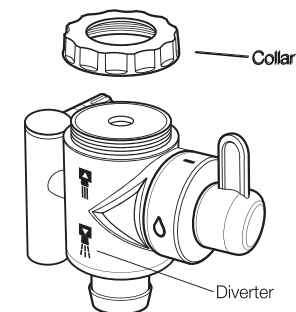
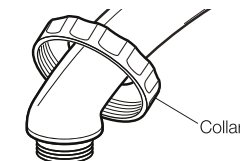

Figure 3.3 – Removing Collar from Diverter
Figure 3.4 – Inserting Collar Over Faucet
3. From the adaptor set, select the correct threaded adaptor that fits your faucet. Unscrew the collar from the top of the diverter (see Figure 3.3). Insert the collar over the faucet as shown in Figure 3.4.
6. Insert the collar over the faucet as shown in Figure 3.4, above. Expand